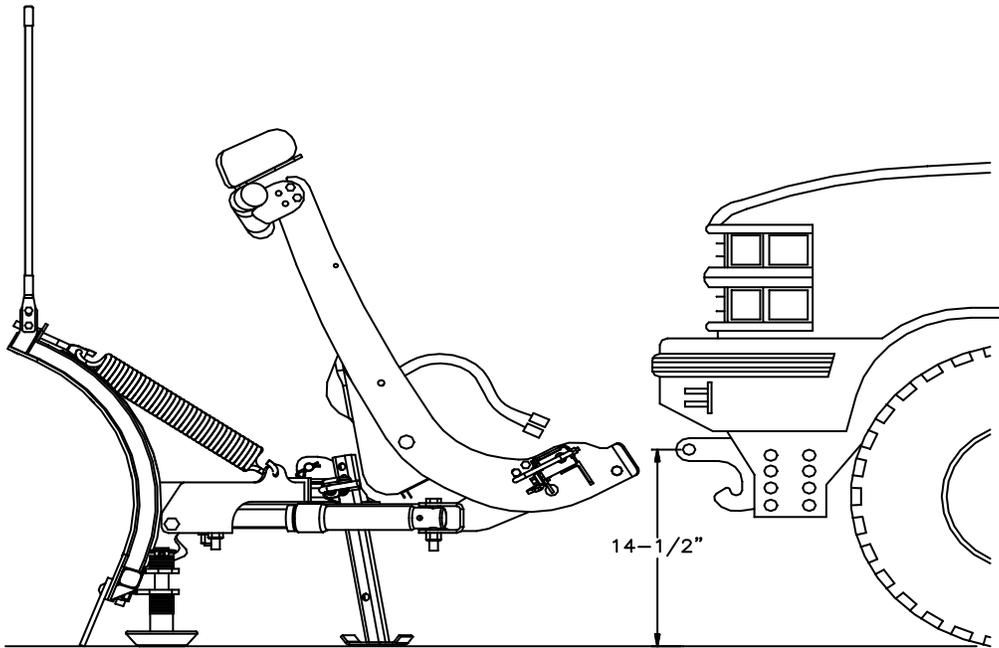

Figure 2
2. Cut rubber portion of air deflector attached to bumper and discard. Open vehicle hood and remove four vertical bumper bolts from existing Bumper Brackets (BB). Remove bolts from two outer bumper brackets if equipped on vehicle. Remove bumper.
3. Clamp existing Bumper Bracket (BB) to frame rail. Remove two existing Nuts (AA) from Bumper Bracket (BB). Use chisel and hammer between head of existing Bolts (CC) and Bumper Bracket (BB) to force them loose. Use caution to prevent damage to parts. Unclamp and remove Bumper Bracket (BB). Repeat process on opposite side of vehicle.
4. Assemble driver side Push Beam Support Plate (62B), existing Bolts (CC), Nuts (AA), and Bumper Bracket (BB) onto frame rail. Make sure Bumper Bracket is between inside of frame rail and Push Beam Support Plate (62B). Move Push Beam Support Plate (62B) up until horizontal gusset touches bottom of frame rail. Align two horizontal holes on Push Beam Support Plate (62B) vertical tab with outside horizontal frame rail holes. DO NOT INSERT OUTSIDE BOLTS YET! Tighten existing Nuts (AA) to hold Push Beam Support Plate (62B) in place. Repeat process on passenger side.
5. Insert Bolt Bars (101) through square slot on slanted front of vehicle crossmember. Manipulate Bolt Bars through horizontal slotted holes on crossmember and outside holes on Angle Bracket Assembly (75). Finger tighten ½" Split Lock Washers (F) and ½"-13 Gr 5 Nuts (G) on each side. Insert two ½"-13 X 1-1/2" Hex Head Bolts (A) through inside holes of Angle Bracket Assembly. Finger tighten ½" Split Lock Washers (F) and ½"-13 Gr 5 Nuts (G) on each side.
6. Assemble Push Beam Assembly (62) between Push Beam Support Plates (62A & 62B) using four ½"-13 X 1-1/2" Hex Head Bolts (A) and ½" -13 Hex Head Nylon Lock Nuts (B) on each side. NOTE: The proper height adjustment for Push Beam Assembly (62) is 14-1/2" from the ground to the center of the pin receiving hole (see Figure 2). Leave hardware finger tight. Assemble Angle Bracket Assembly (75) onto tabs on back side of Push Beam Assembly (62) using two ½"-13 X 1-1/2" Hex Head Bolt, GR8, Yellow Zn (C) and ½"-13 Hex Head Top Lock Nut, GRC, Yellow Zn (D) on each side.
7. With all components in place, begin tightening hardware. Angle Bracket Assembly (75) should be tightened first. Make sure Angle Bracket Assembly (75) is attached to correct holes in Push Beam Assembly (62) tabs. Angle Bracket Assembly (75) arms should be level with ground.
8. Center bumper on vehicle with brackets aligned. Mark position of Push Beam Support Plates (62A & 62B) on plastic air dam. Remove bumper and notch air dam to allow bumper to fit over Push Beam Support Plates (62A & 62B). Reinstall bumper on vehicle. Air dam has to be forced on top of Push Beam Assembly (62) hooks or notched to allow clearance. Make sure outside bumper brackets (if equipped) slide between outside of frame rail and outside vertical tab on Push Beam Support Plates (62A & 62B).
9. Insert two ½"-13 X 1-1/2" Hex Head Bolts (A) through horizontal mounting holes on driver side Push Beam Support Plate (62B) vertical tab, outside bumper bracket, and outside wall of frame rail. If outside bumper brackets are not equipped, use provided ½" Flat Washers (E) to fill gap between outside of frame rail and Push Beam Support Plate (62B) vertical tab. Assemble ½"-13 Hex Head Lock Nuts (B) onto ½"-13 X 1-1/2" Hex Head Bolts (A). Repeat process on passenger side.